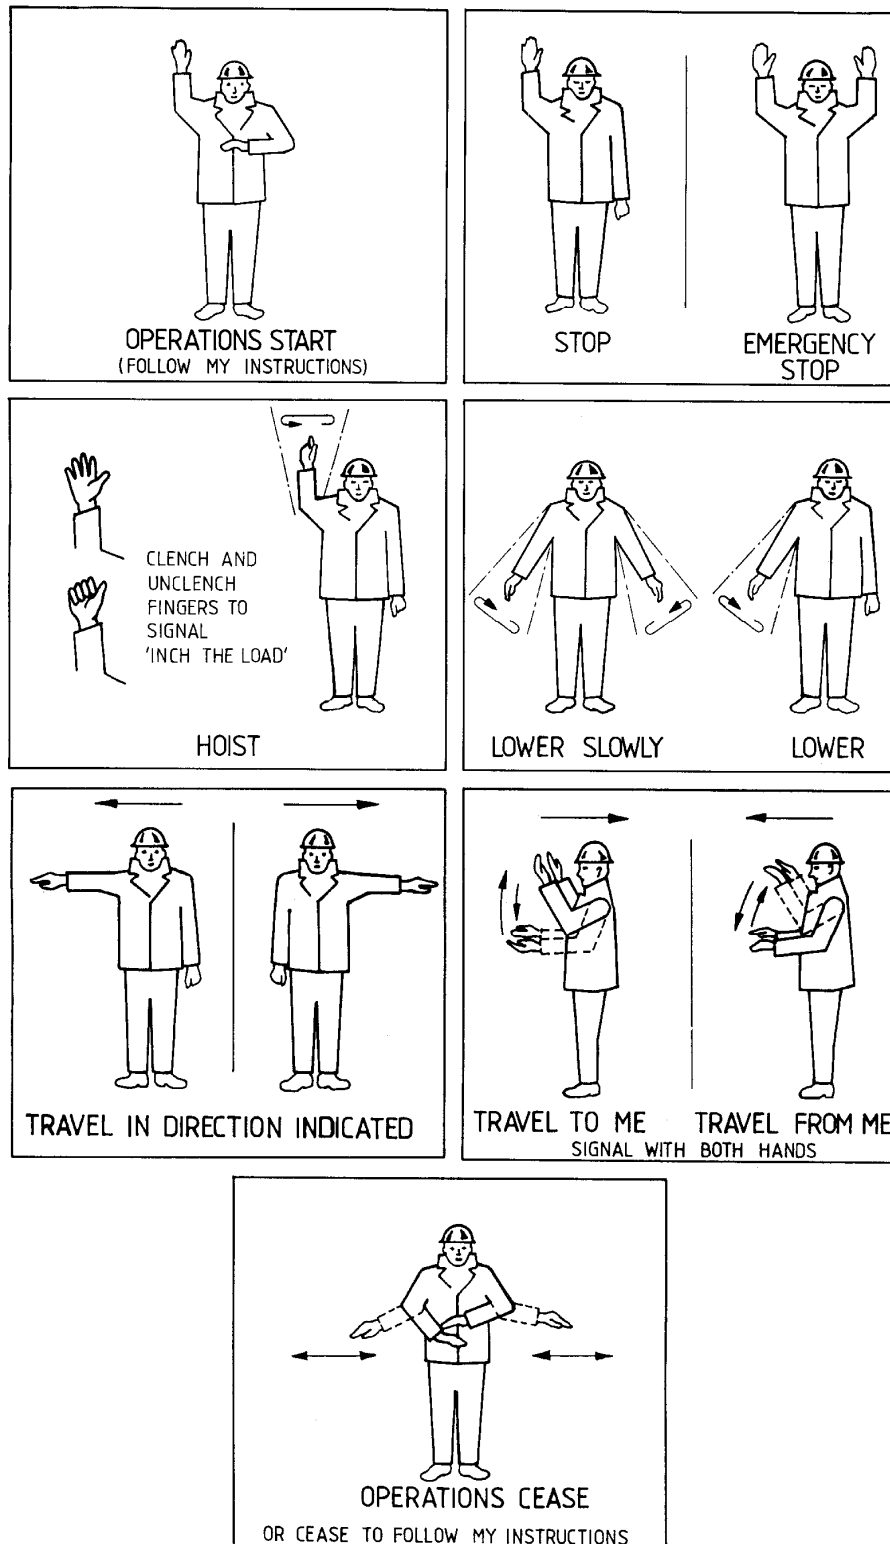

Figure 46 – Recommended Hand Signals
19. Ensure that you can see the hook or load clearly at all times or are receiving signals from someone who can. Ensure that both parties know the full meaning of the hand signals for operating the crane / hoist. See Figure 46 for recommended hand signals.